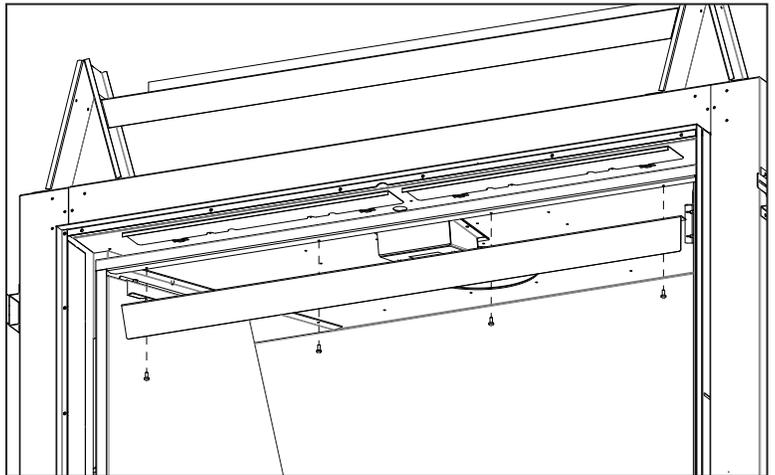

Figure 72: Light Deflector Removal
Step 2. Remove light deflector by removing the four (4) retaining T-20 screws (see Figure 72).